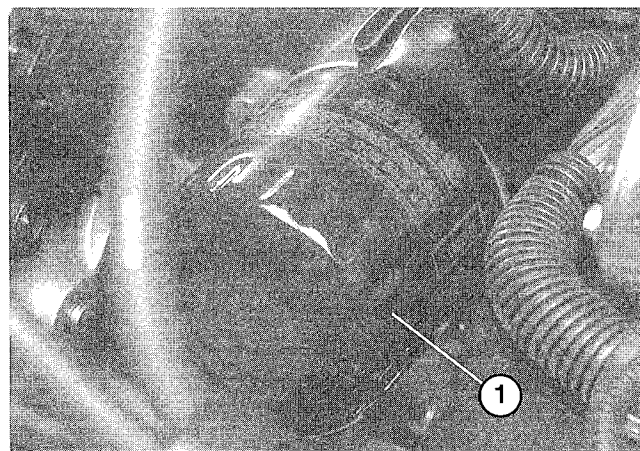

Figure 45
2. Remove oil filter (Fig. 45). Apply a light coat of clean oil to the new filter seal before screwing it on. **DO NOT OVER-TIGHTEN.**